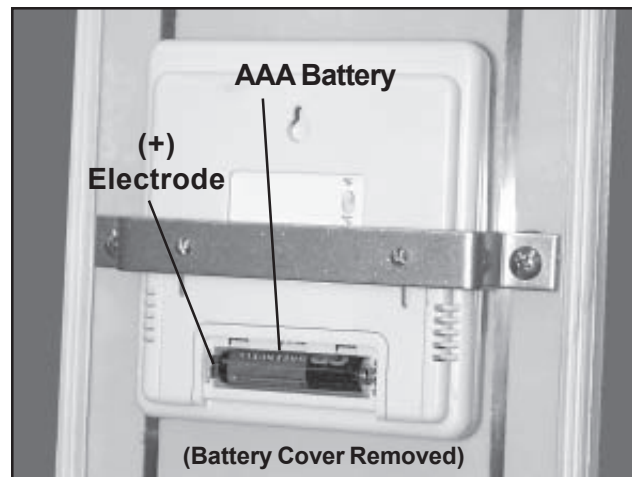

Figure 72. Digital Readout Battery
4. Install a new Type AAA battery (Figure 72). Position the (+) electrode to the left.